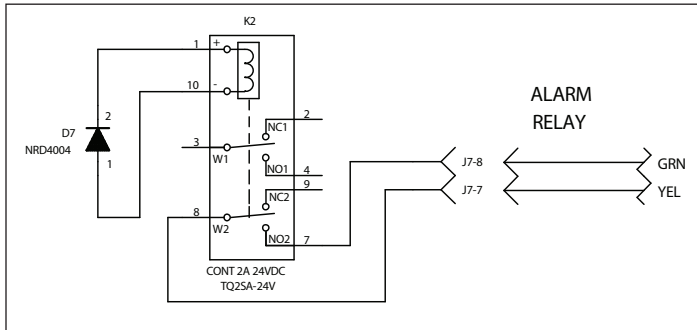

Figure 10. High Load Alarm Relay Wiring Diagram.
This option will provide a SPST contact closure when the trip unit current equals or is greater than 105% of In for a period of 38 seconds. If the current drops below the 105% value, the contact will open. The yellow and green wires that exit the right side of the breaker are the common (C) and normally open (NO) of this relay (see Figure 10).